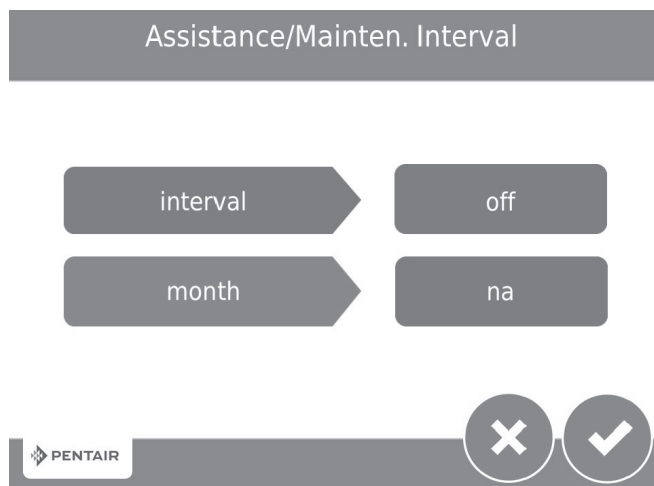

Figure 12
4. After pressing , the Assistance/Mainten. Interval screen (Figure 12) is displayed.